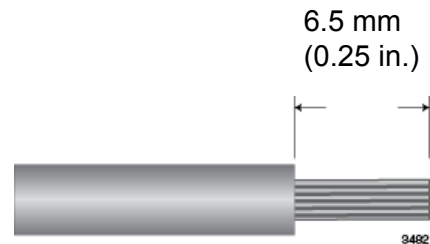

Figure 30. Stripping a Stranded Power Wire
- 4. Remove 6.5mm (0.25 in.) of insulation from one end of the red voltage wire and black RETURN wire. Refer to Figure 30.